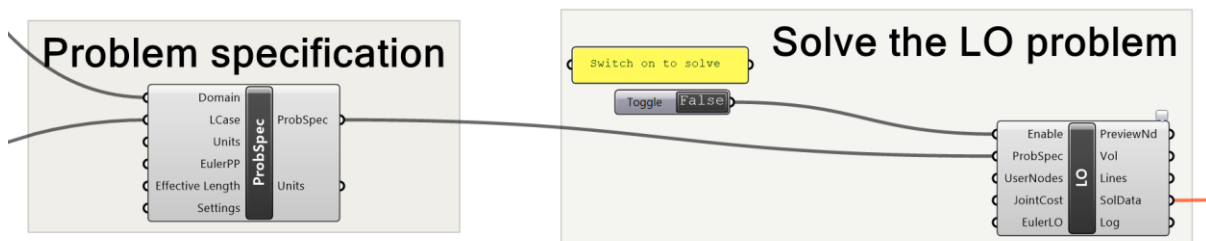

Figure 9 - The Problem Specification and Layout Optimization components
The listed features are combined as input into the *Problem Specification (ProbSpec)* component (as the *Domain* and *Load Case*). The output from this component is then used as the *ProbSpec* input into the *Layout Optimization (LO)* component (Figure 9). It is this latter component which controls the optimization. A toggle is added to the *Enable* input, which can then be used as a switch to turn on (and off) the optimizer kernel. Other inputs (e.g. *JointCost*) are optional controls on the problem setup and are explained later in this document.